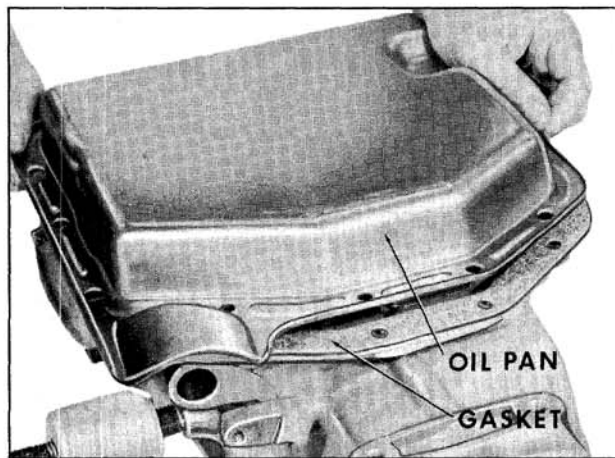

Fig. 6-540 Installing Oil Pan and Gasket
14. Install oil pan gasket and pan. (Fig. 6-540)